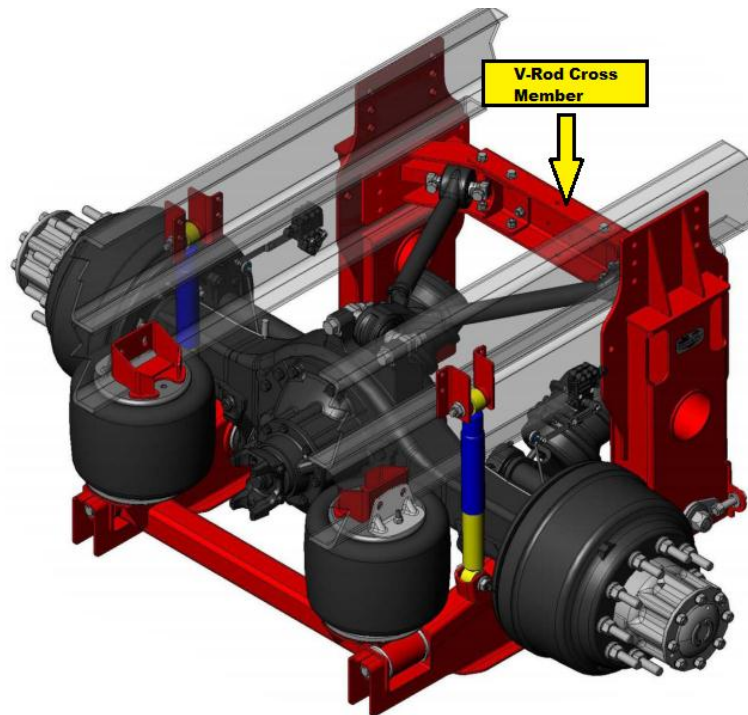

FIG. 2-1
1. Gain access to the V-Rod cross member shown in FIG. 2-1.